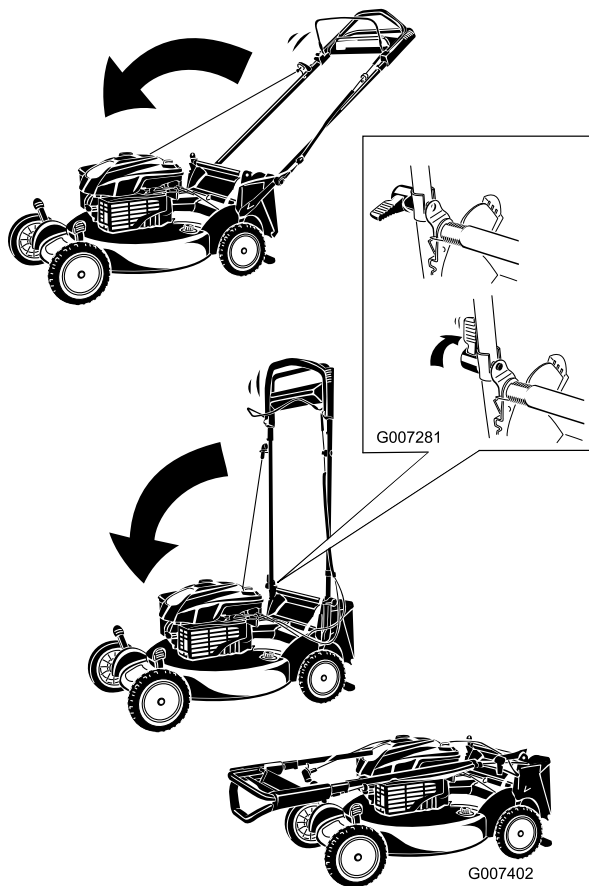

Figure 44
1. Rotate the handle forward (Figure 44).